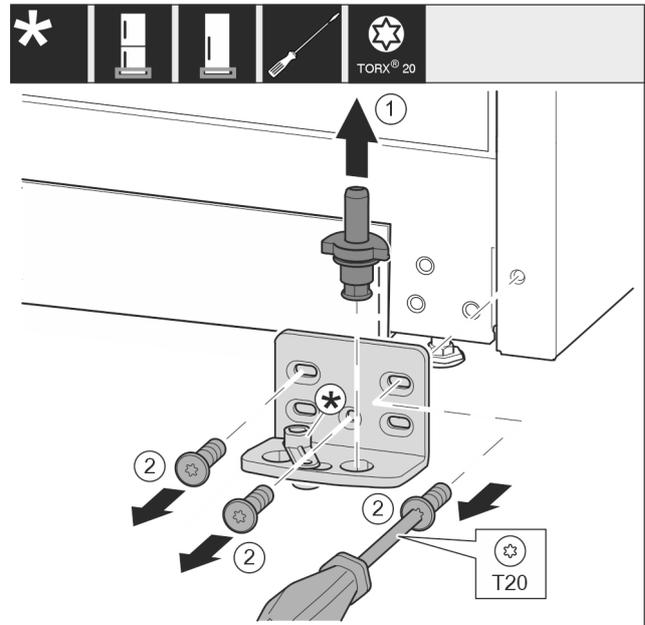

Fig. 14
- ▶ Lift the bearing pin completely upward and pull it out. Fig. 14 (1)
- ▶ Take out the screws with a T20 screwdriver and take off the bearing bracket. Fig. 14 (2)